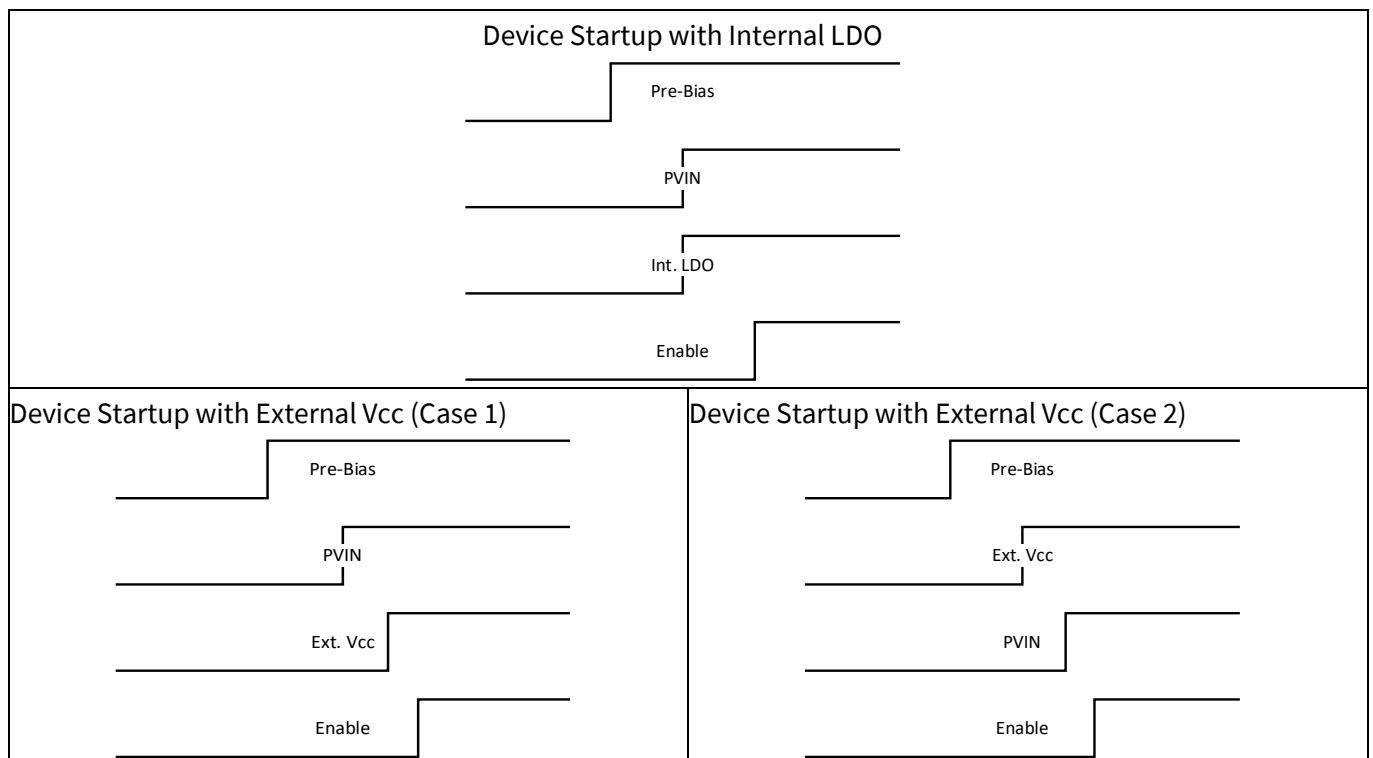

Figure 15 Device power-on sequence with pre-bias.
TDA38640 is ready to communicate as soon as Vcc is above the threshold of 3.6 V. The device starts switching once the Enable signal is pulled high. Based on whether Vcc is supplied externally or an internal LDO is used, the recommended power-up sequences are shown in Figure 15.
- The startup sequence should follow the sequencing shown in Figure 15.